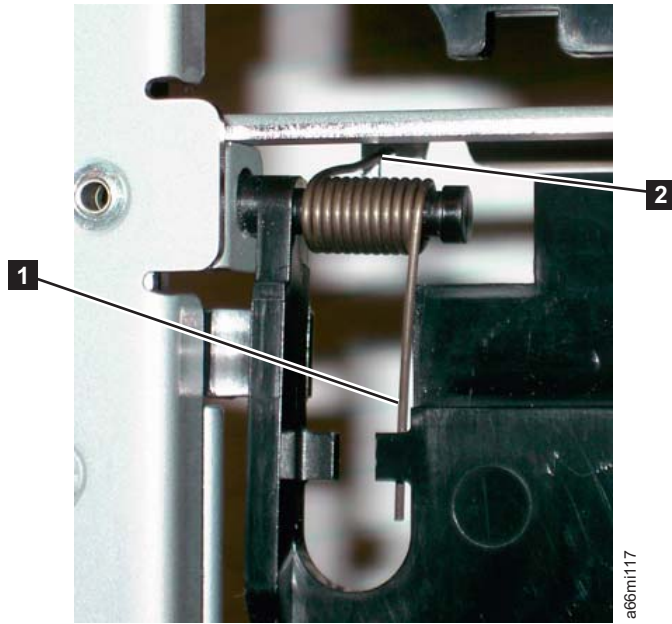

Figure 8-25. I/O Safety Flap Front Spring Wire
2. Unhook the front spring wire (**1** in Figure 8-25 on page 8-29) from the tab on the I/O flap.